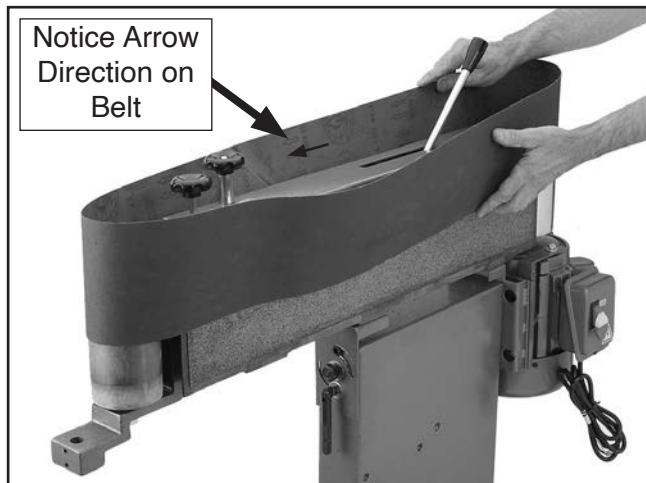

Figure 10. Installing sanding belt.
6. Loosen the belt tension lock knob, and move the tension lever to the release position, as shown in **Figure 10**.
7. Make sure the arrows on the inside of the belt point in the counterclockwise direction, and place the sanding belt over both rollers as shown in **Figure 10** above.